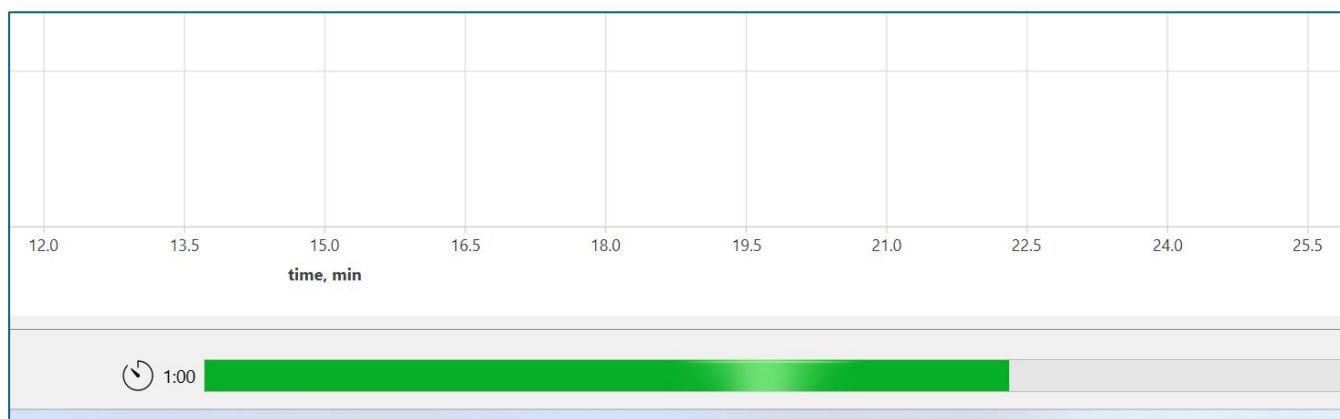

Figure 15. Progress bar at the bottom of the main window showing time remaining in the current step.
- 11 During the execution of the protocol for each "wait" condition, a timer will appear at the bottom of the window (see Figure 15). This timer indicates the estimated time